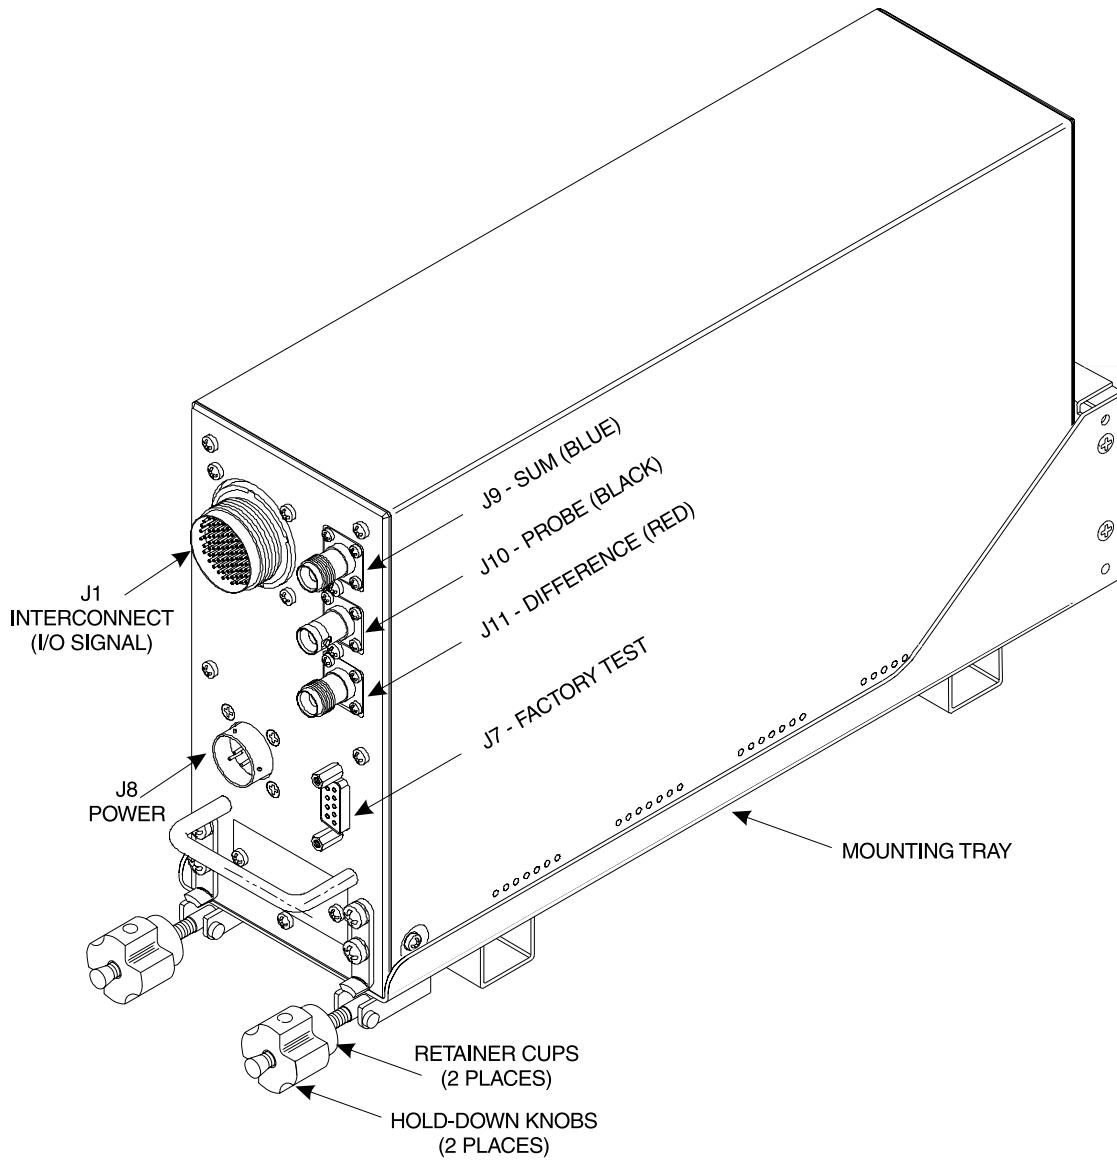

Figure 2-12. TRC497 Installation
1. Slide the TRC into the mounting tray (see figure 2-12). Ensure that the rear hold-down pins on the mounting tray are properly inserted into receptacles on the TRC.